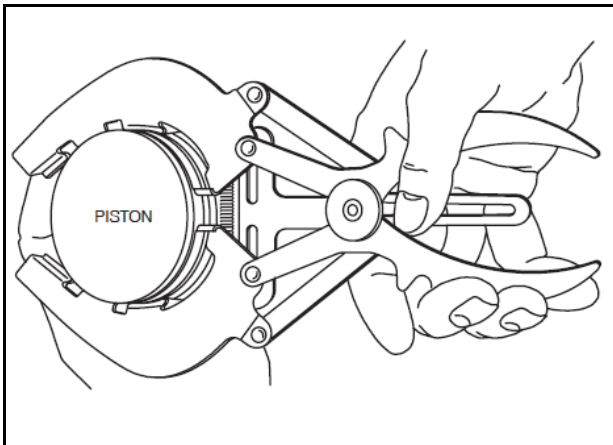

Fig.1-Removing Piston Rings
1. Remove compression rings and oil ring using ring expander, Fig. 1.